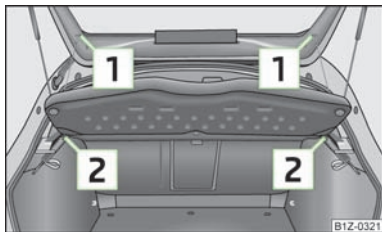

Fig. 55
- Unhook the support straps  » Fig. 55.